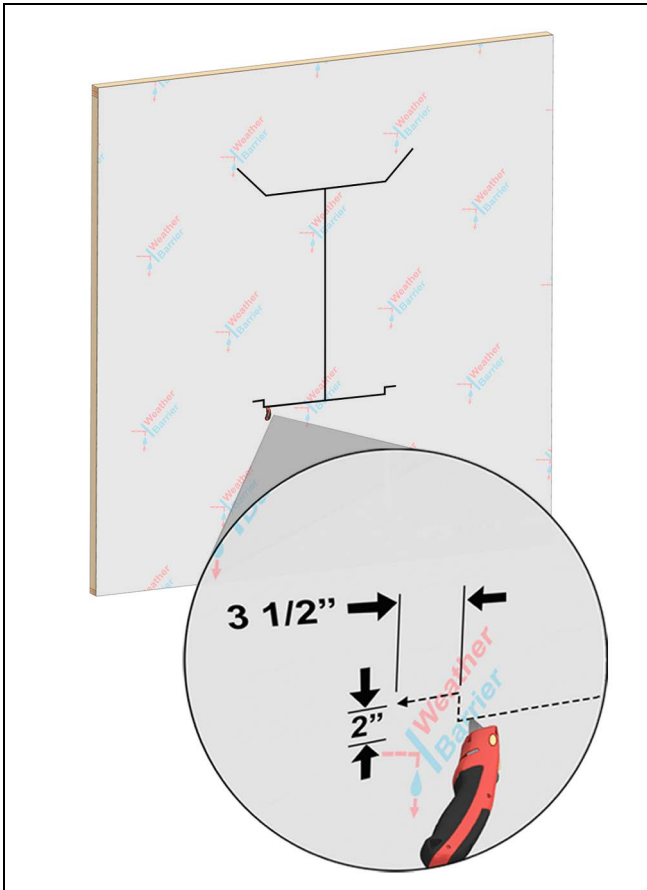

Figure 16
1. Make horizontal cuts to the Weather Resistive Barrier (WRB) across the top and bottom of the Rough Opening. Make a vertical cut down the center of the RO, then make 45 degree cuts away from the corners of the top of the RO. See Figure 16. Trim up from the bottom corners 2" and then make an additional horizontal cut about 3-1/2" wide.